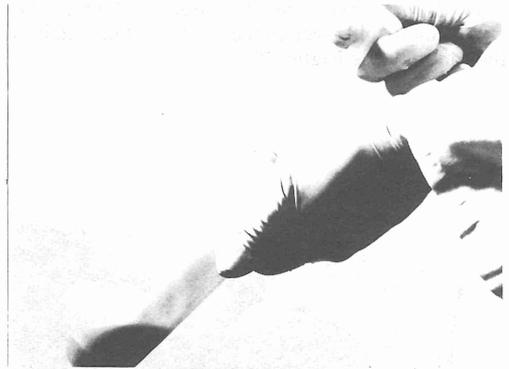

FIGURE 7
5.06 Inject the compound as follows: Place mixing rod in the hole of the red end cap at the bottom end of the cartridge and push the rod forward. (see Figure 7)